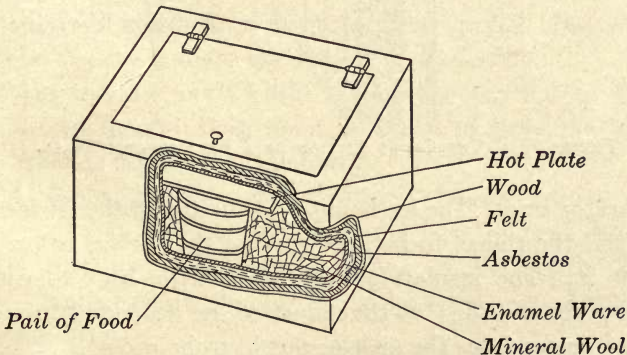

FIGURE 27. — THE FIRELESS COOKER.
51. The Fireless Cooker. — The fireless cooker is a box arrangement with non-conducting walls. Figure 27 shows how it is constructed. On the inside are pails in which the food is placed. Around the pails is the non-conducting wall. The food is first heated to the boiling point, and at the same time slabs of soap stone or iron are heated. When these are hot enough, the hot food is placed in the pails between the hot slabs; then the whole box is closed up tight.